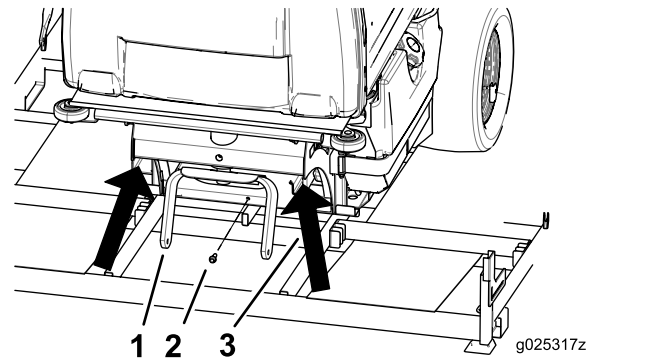

Figure 10
5. Raise the rear of the machine approximately 25.4 to 30.5 cm (10 to 12 inches) and support it with jack stands or equivalent support (Figure 10).